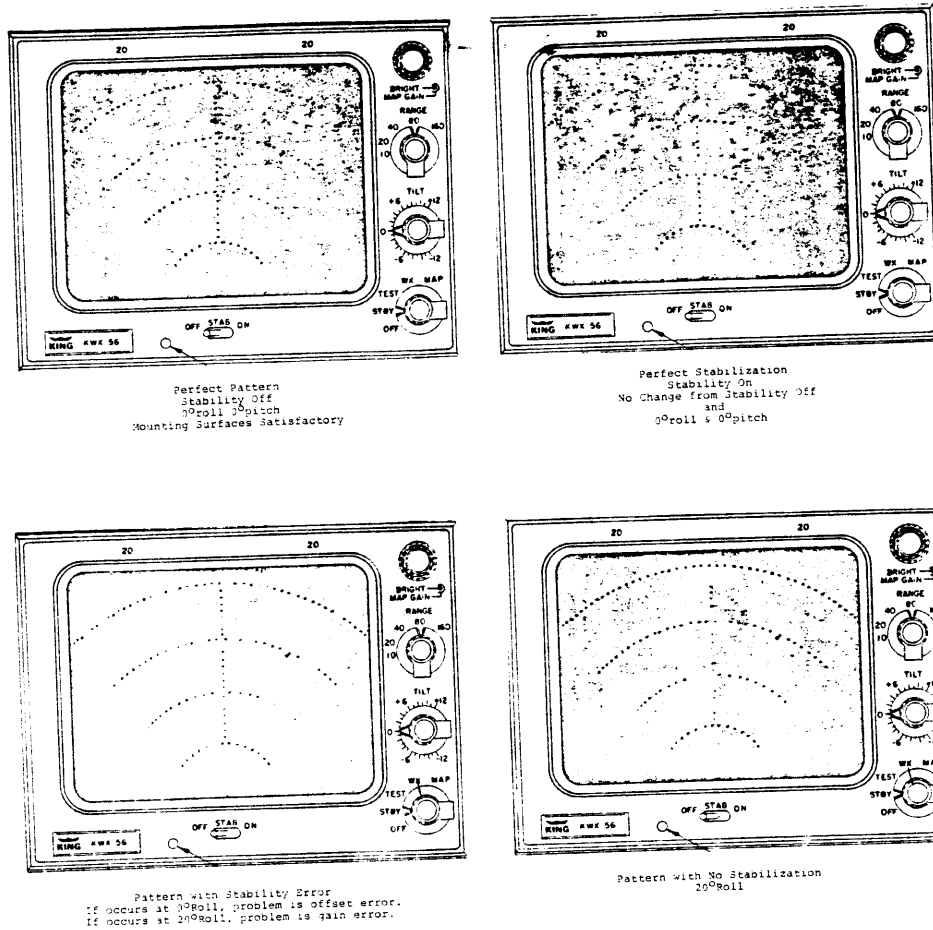

FIGURE 2-1 VIDEO ALIGNMENT PATTERNS
- A. The KA 126 is designed to be rigidly mounted in the nose sections of the aircraft. If the nose section is not accessible, pod mounting is possible. The bulkhead or antenna mounting plate must be very close to perpendicular to the aircraft center line. The selected location must have adequate clearance for the full antenna sweep and tilt range (See Figure 2-1). The nose section need not be pressurized but if the aircraft is to be operated at altitudes greater than 25,000 feet a pressurized antenna must be used. The radome needs a minimum transmissivity of 90 percent. (See dot Advisory Circular No. 43-14 for radome considerations.)